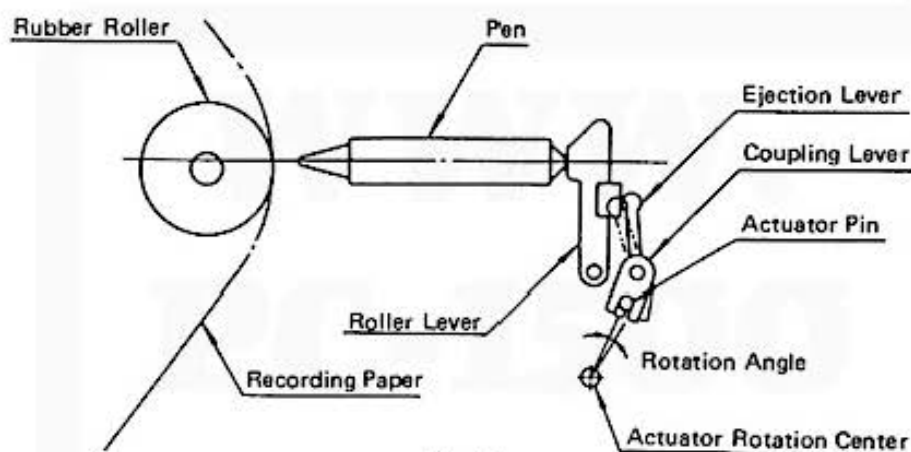

Fig. 4
<p>5) Wind the wire around the pulley (G), then thread through the hole in the side plate.</p> <p>6) Now, set the slider unit to a distance of 5mm from the right (magnet side), then thread the wire through the hole in the slider unit as shown in Fig. 4.</p>  <p>Fig. 4</p> <p>Hold the wire at the point (A) and stretch the wire towards the direction (H), then adjust the location of the slider unit so that the distance between the side plate and the slider unit should become about 5mm.</p>